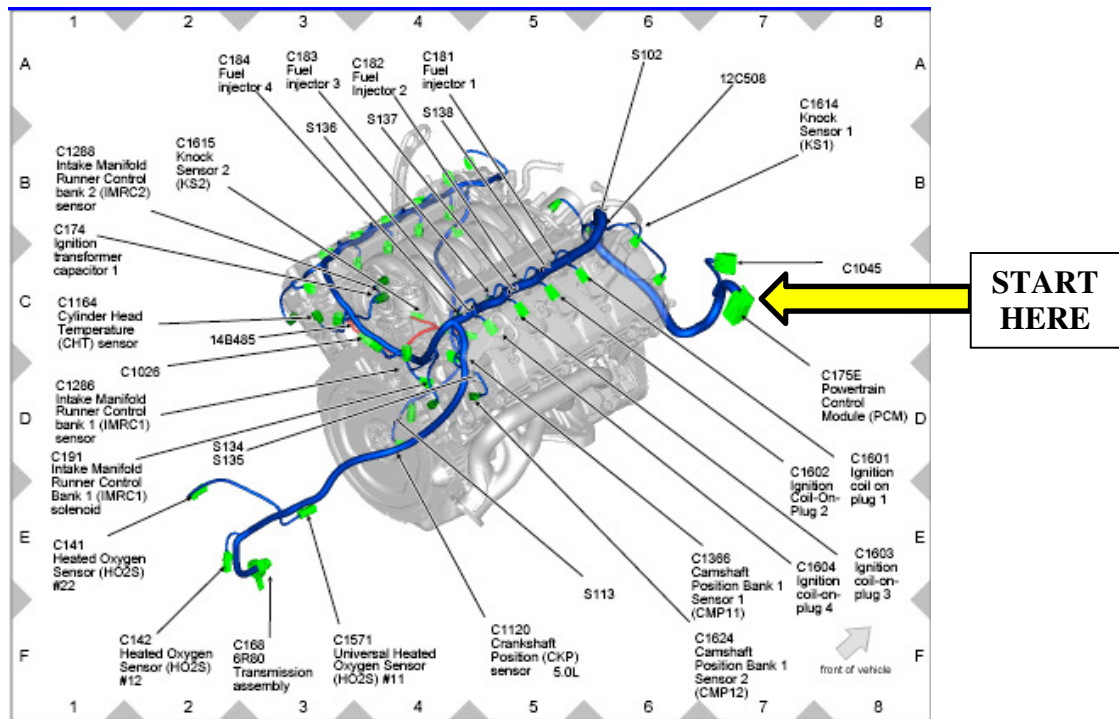

Figure 2 – Rear View of Engine.
2. Locate the PCM connector (C175E) on the engine harness as indicated in Figures 2 and 3 by the "START HERE" arrow.